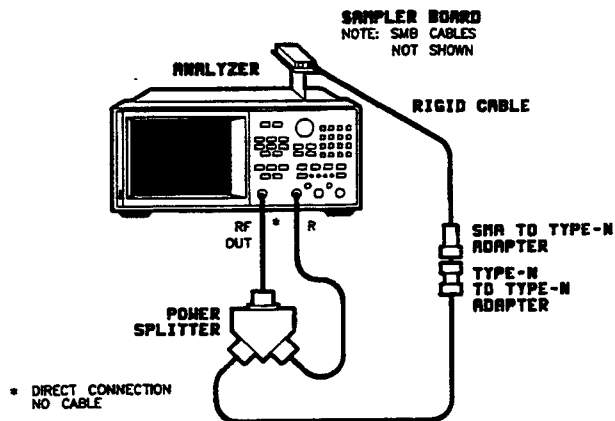

Figure 17. Cable Connections with Sampler on Extender Board
5. Place the sampler board on the small extender board and reconnect the flexible SMB cable(s). Use extension cable(s) as required. Disconnect the cable on the front panel input R and reconnect it to the SMA connector of the sampler. Use the rigid extender cable, an SMA (f)/type-N (m) adapter and a type-N (f)/type-N (f) adapter as illustrated in Figure 17.